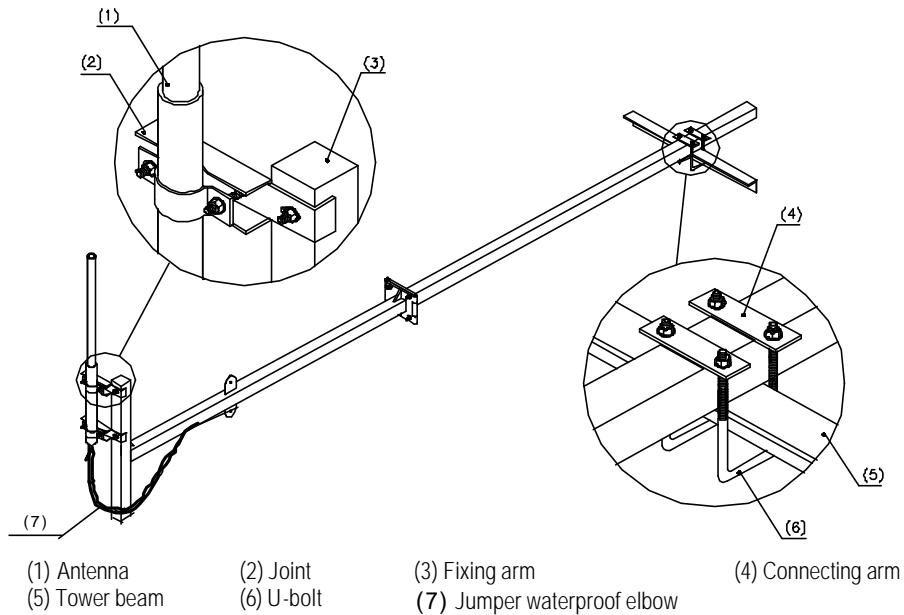

Figure 3-23 Installing the omni antenna
- 2) As shown in Figure 3-23, secure the antenna fixing clip and the mainstay support properly to ensure its load bearing and wind resistibility. It should not be too tight to damage the jacket of the antenna.